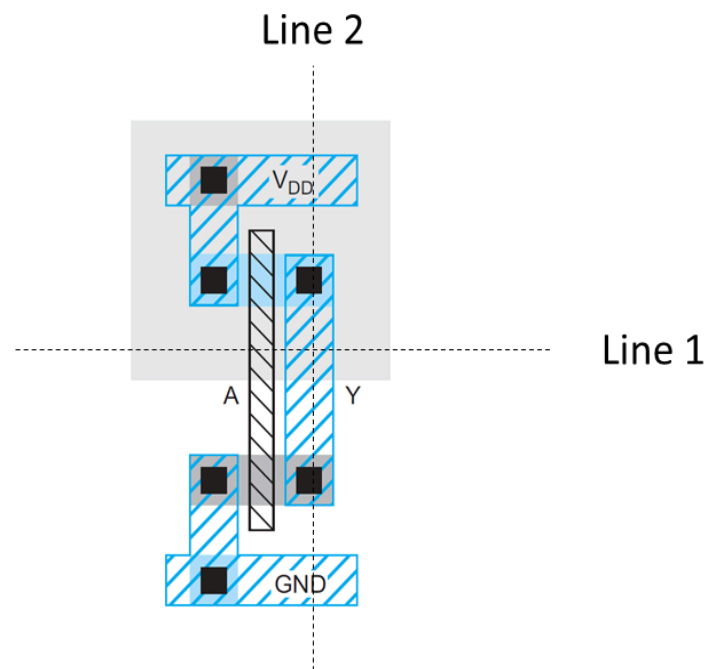

Fig. 1. Draw a set of 6 layout masks and draw the cross-sectional view
10. In 6 separate figures, draw the set of 6 layout layer masks (n-well, polysilicon, n+ diffusion, p+ diffusion, contact, metal) for the following CMOS inverter layout: (Fig. 1)
11. Draw the cross-sectional view of fig. 1 along Line 1 and 2.